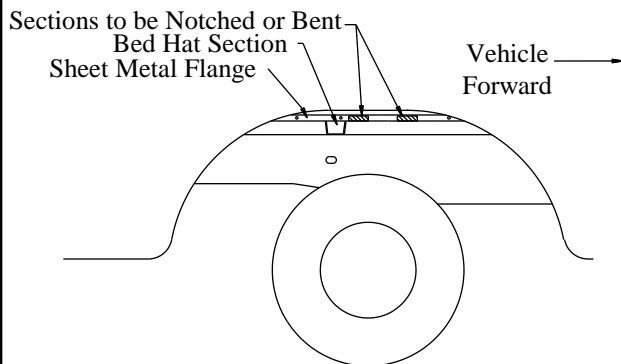

Figure 2
1. From the passenger's side wheel well, notch or bend the sheet metal flange as shown in Figure 2. (**Optional:** The vehicle bed can be lifted to insert the hitch cross members by loosening the bolts that attach the bed to the frame).